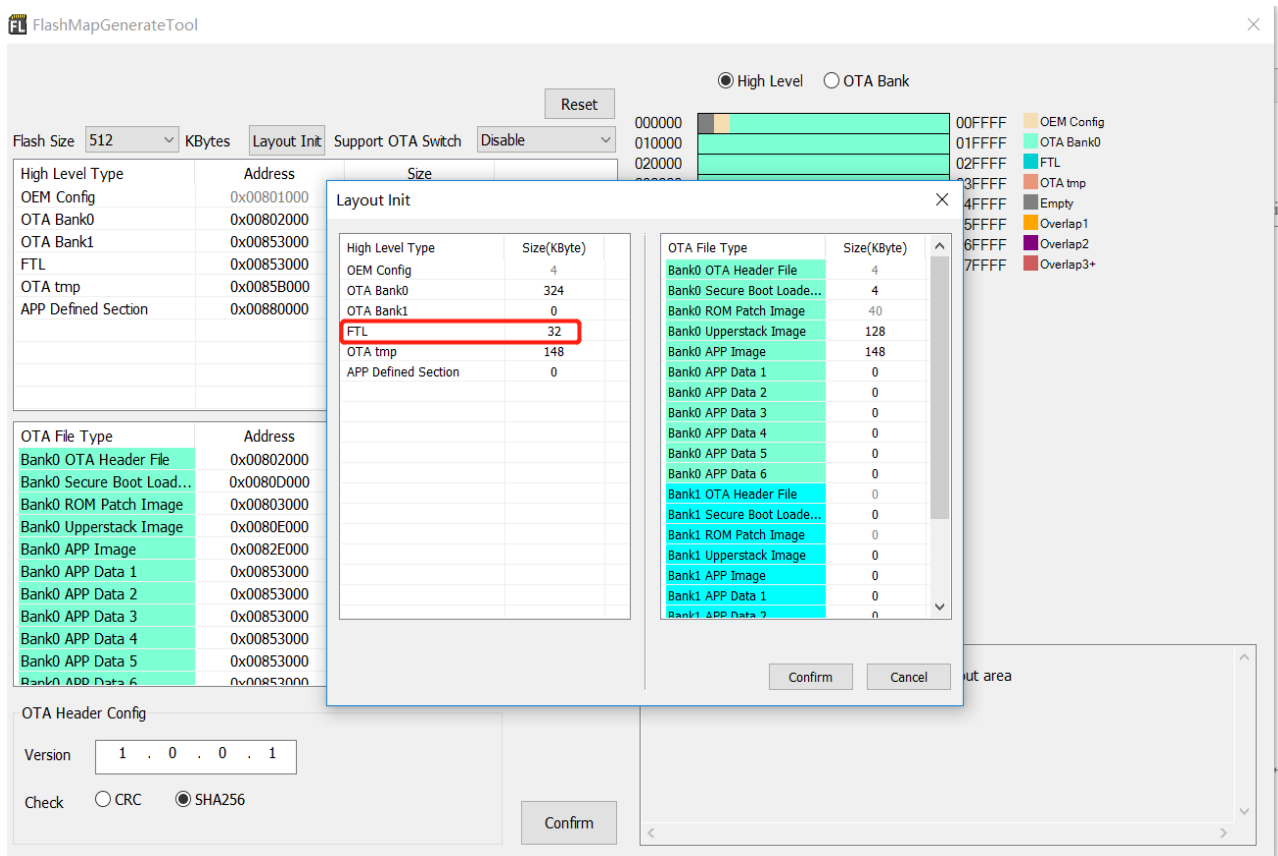

Figure 5-9 Adjust Flash Map Config File
- 3) Load “flash_map.ini” into MPTool to generate config file for download. As shown in Figure 5-9, the physical space of FTL will be adjusted to 32K.